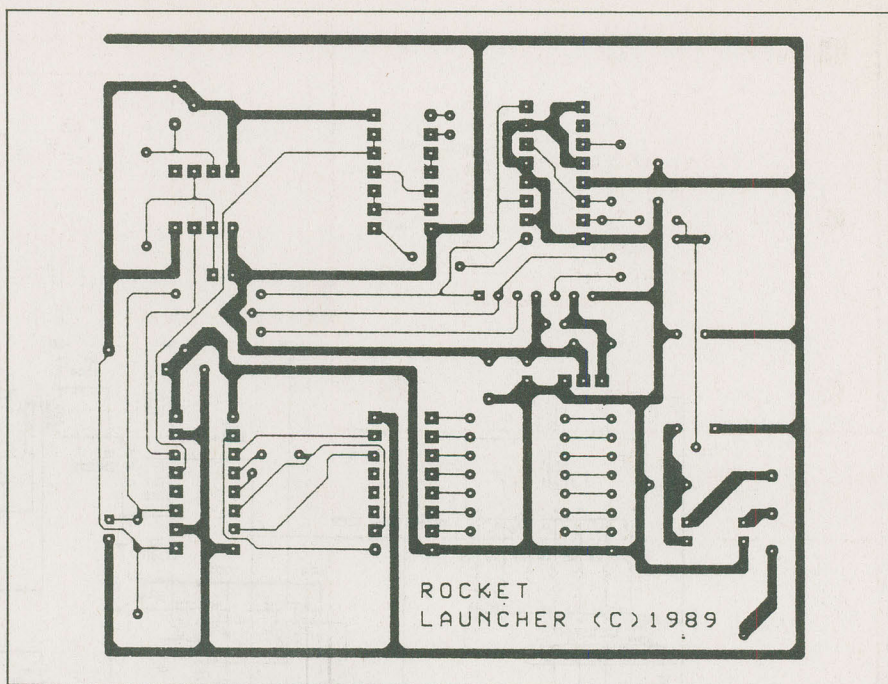
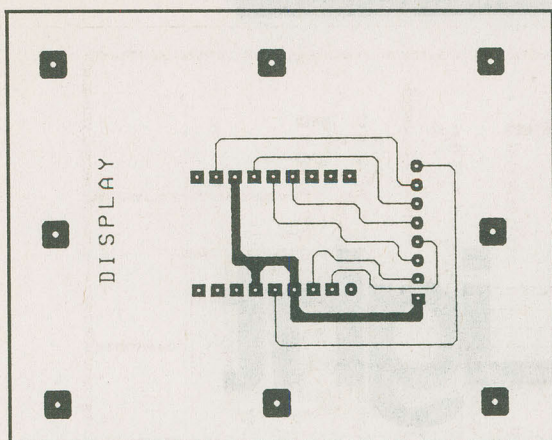

Fig. 2. The main PC board foil side.
Fig. 4. The display PC board, foil side.
P.C. boards shown in Figures 2 & 3. Then you can install the parts as shown in the component location guides (Figures 4 & 5). Start by installing the sockets, resistors and diodes. Then install the capacitors, regulator, transistor, display and relay. Next install the nine jumpers.